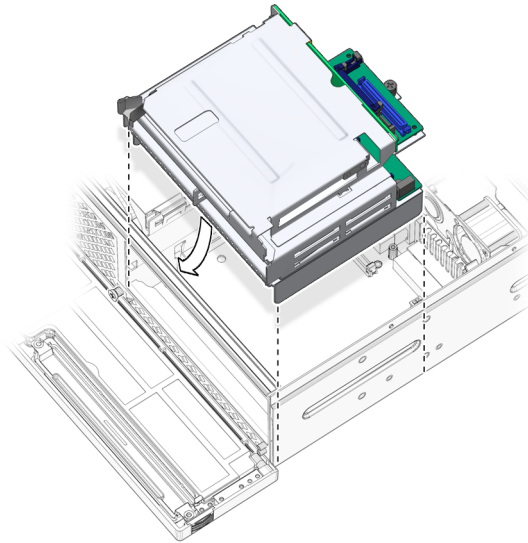

FIGURE 3-13 Setting the Mass Storage Assembly Into Place
3. Pivot the front of the mass storage assembly down and lower it into the chassis, sliding it forward (FIGURE 3-13).